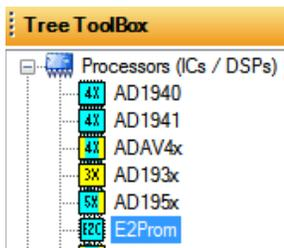

Figure 68. Adding an E2Prom Component
1. Add an IC2 (E2Prom) block to the project space of the **Hardware Configuration** tab from the **Tree Toolbox**. From the **Processors (ICs / DSPs)** folder, click E2Prom (see Figure 68) and drag it to the project space.